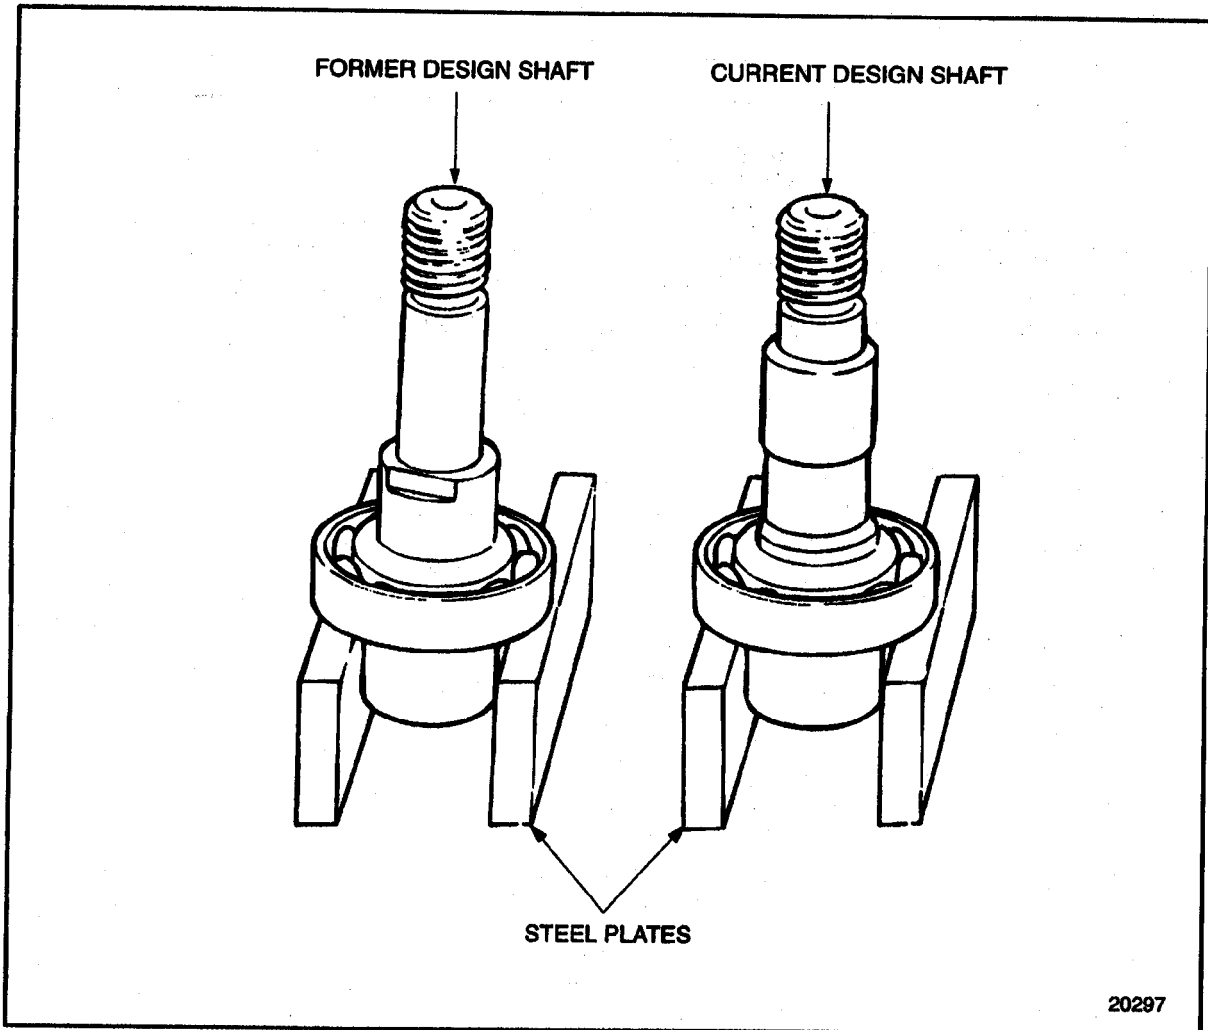

Figure 1-411 Position of the Steel Press Plates
14. Position two steel press plates under the ball bearing outer race. See Figure 1-411.